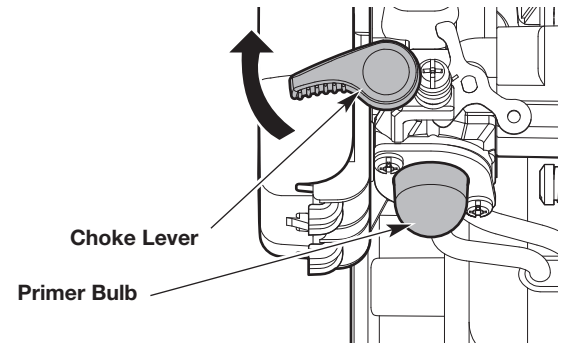

Fig. 11
1. Slowly press and release the primer bulb **10 times** (Fig. 11).
2. Flip the choke lever clockwise until it clicks (Fig. 11).